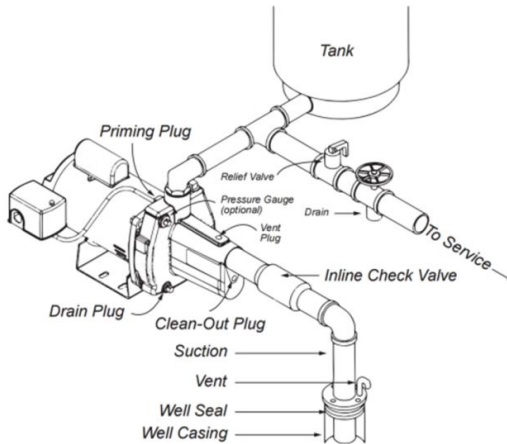

FIG. 2B SHALLOW WELL (WITH INLINE CHECK VALVE)
b) Suction Pipe: It is recommended that only new, clean 1-1/4 inch pipe or hose be used. If the pump is installed any appreciable distance away from the source of water, the suction pipe should be increased to 1-1/2 inches. Horizontal lengths of pipe must gradually slope upwards from the source of water to the pump to avoid air pockets in the line. Thread compound should be used on all pipe joints and connections should be thoroughly tightened. A foot valve must be installed and its operation should be checked since a leak will prevent proper operation of the system. Make sure the foot valve is located so that it will be submerged at all times. If a sand point or driven well is used, install a check valve next to the pump suction instead of the foot valve (Fig. 2b). All installations must have a foot valve or a check valve in the suction pipe.